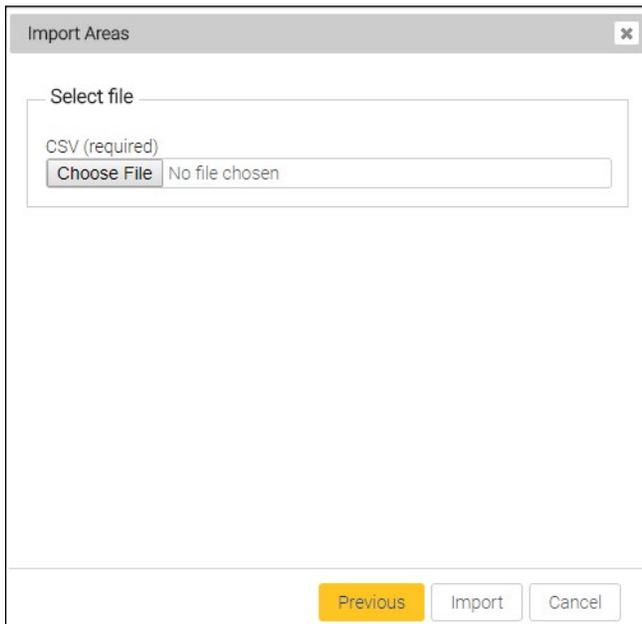

Figure 20-1
- (a) Click **Choose File** and then select the .csv file from your computer for the defined cluster. Refer to Figure 20-1.
- (b) Click **Import** to import the areas. Refer to Figure 20-1.